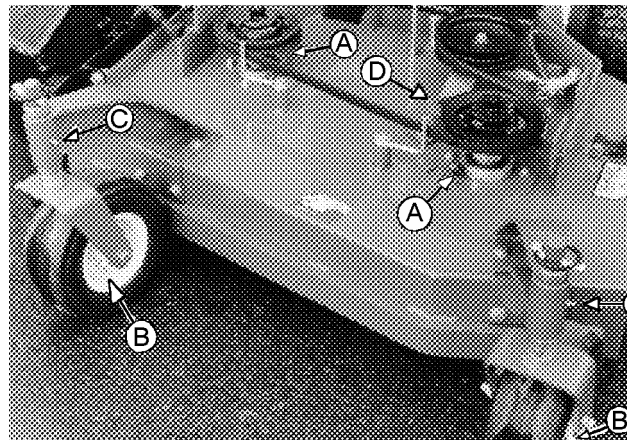

Figure 9
LUBRICATION (See Figures 9, 10 & 11)
- **Cutter Blade Spindle Bearings-** There are two grease positions. See Figure 9 item A.
- **Caster Wheel Bearing-** There are two grease positions. See Figure 9 item B.
- **Caster Wheel Pivot Shafts-** There are two grease positions. See Figure 9 item C.
- **Deck Idler Pulley Pivot Arms-** There is one grease position. See Figure 9 item D.